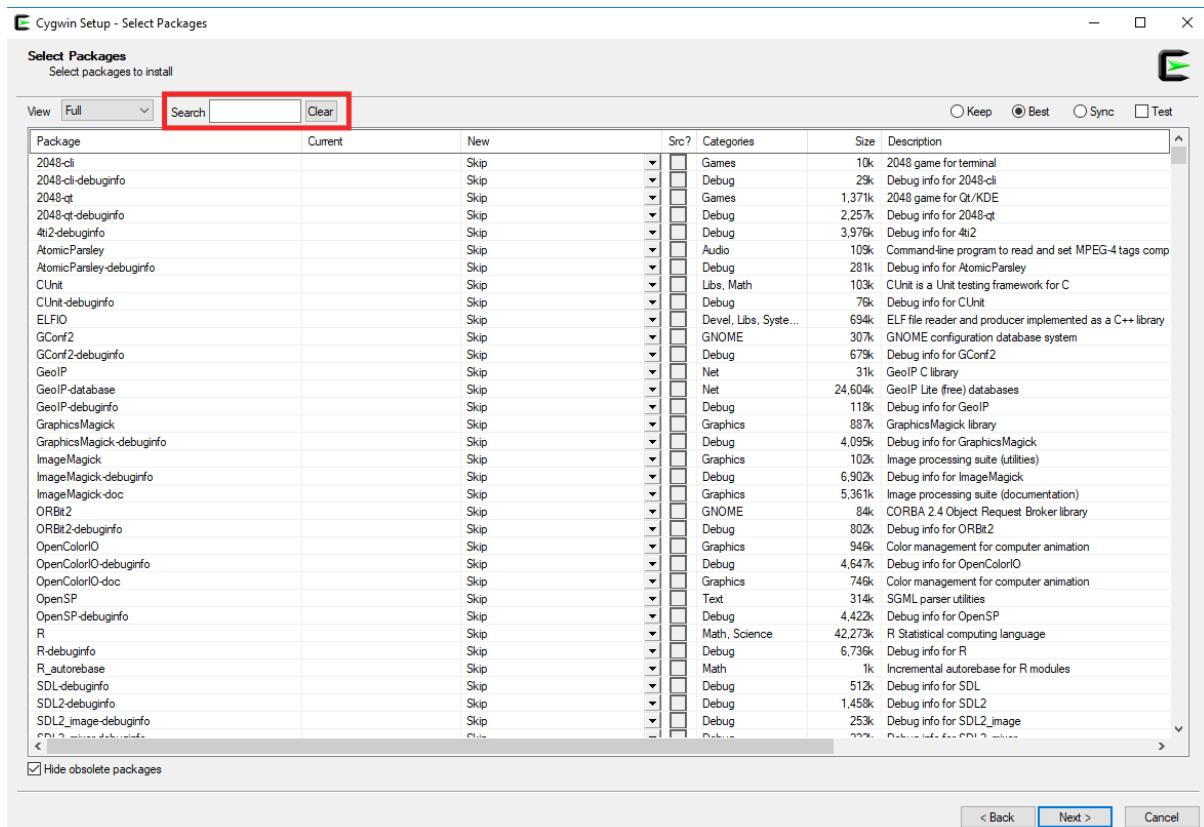

Figure 88. Select Packages window – Full view
4. The complete list of packages that you can install will appear (Figure 88). In the **Search** box, select the specific packages that you want to install.